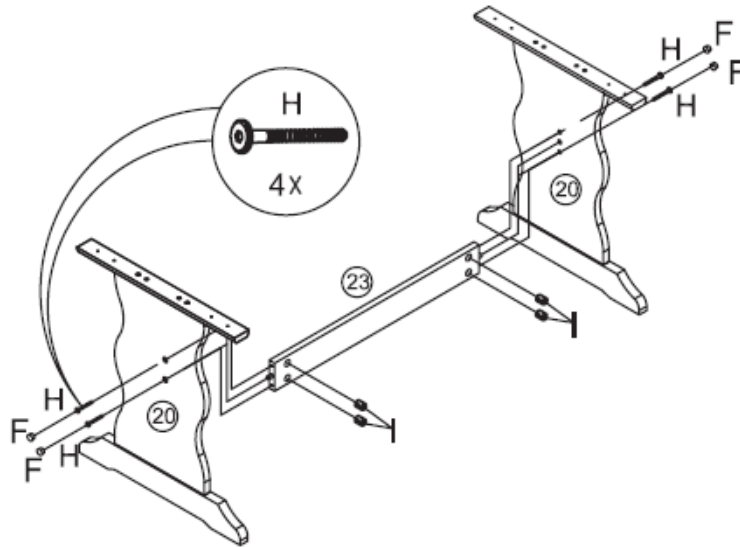

Figure 3
- With assistance, attach Crossbar (23) to fit between the two Legs (26) - completed in STEP 2 - via wood dowels. Ensure that the legs mirror/match each other. Refer to Figure 3.
- Insert Barrel Nut (I) into the designated hole on (23). Refer to Page 6 for Instructions on Installing Barrel Nut.
- Insert Screw (H) through the Leg to screw into the Barrel Nut on Crossbar. Do not tighten (H) until both screws are screwed into the Barrel Nuts. Do not over-tighten the screws.
- Use Wood Hole Cover (F) to conceal screw hole on each leg.